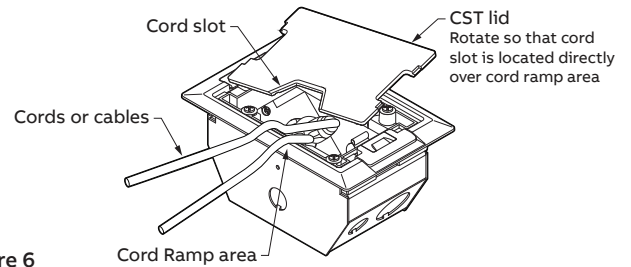
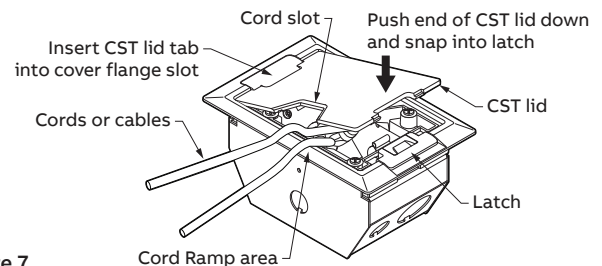

Figure 6
Figure 7
3. Plug in cords/cables as needed and route over cord ramp. Rotate CST lid around, so that cord slot is located directly over cord ramp and the cords/cables (Figure 6).
4. Insert CST lid tab into slot of the cover flange (Figure 7) to close lid. Make certain cords/cables are within the cord slot (Figures 6 and 7).
5. Push end of CST lid down and back against latch to snap into place (Figure 7). Use care to prevent CST lid from pinching fingers.